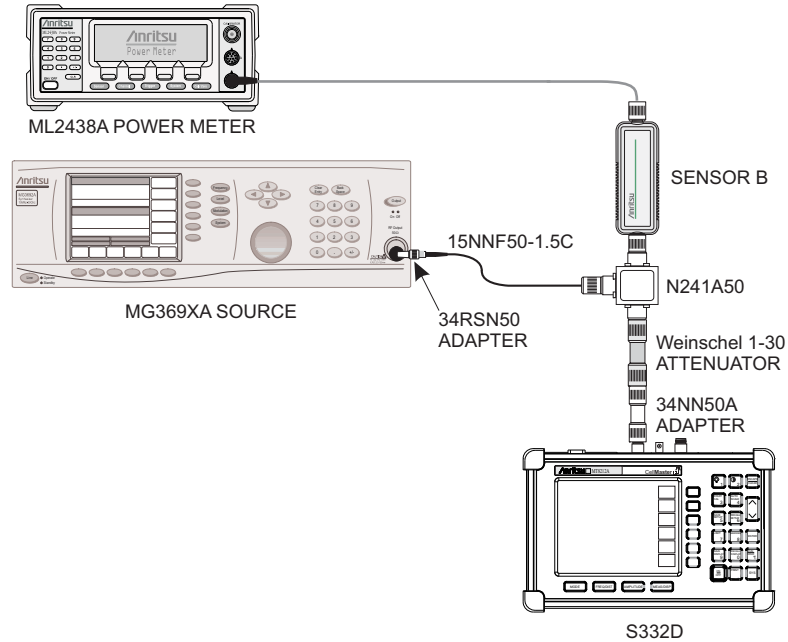

Figure 3. Level Accuracy Setup, 30 dB Attenuator
32. Using the power splitter, coaxial cable, adapters and 30 dB fixed attenuator, connect the Spectrum Master to the signal source and the power sensor as shown in Figure 3.